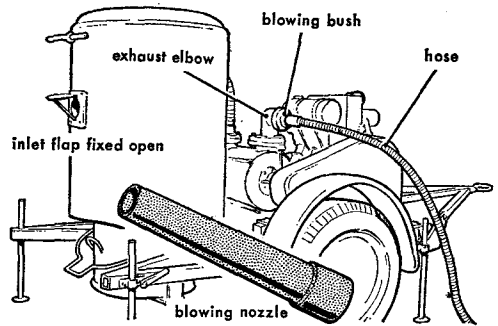

Fig 16 Connections for blowing
34. **Using for blowing.** To use the equipment for blowing it is necessary to connect a hose onto the exhaust outlet elbow with the blowing bush, and either leave a hose in the filter inlet or secure the inlet flap in the open position. A special blowing nozzle (Fig 16) is provided in the tools.